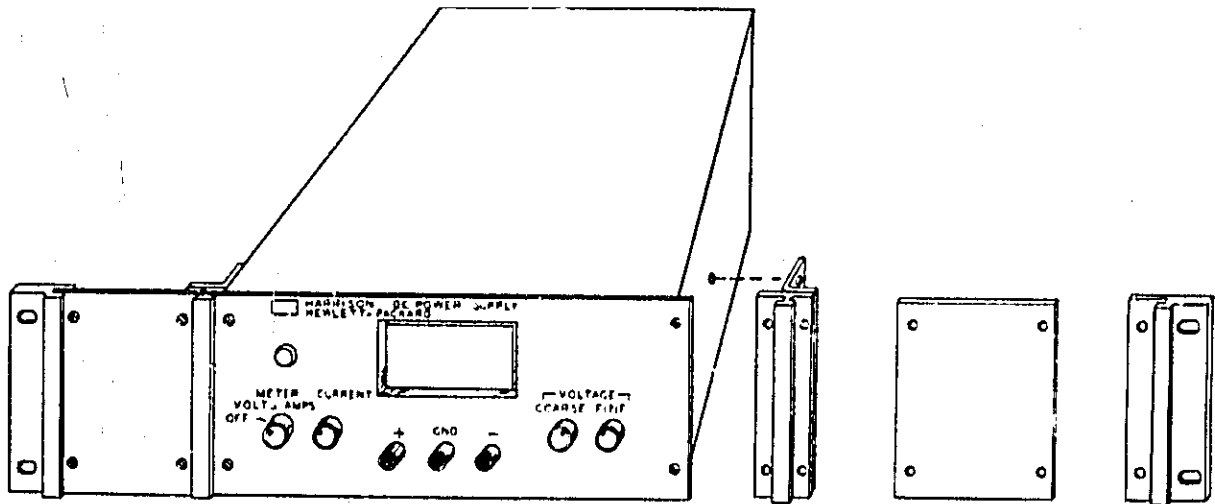

Figure 2-2. Rack Mounting, One Unit
- a. Bolt rack mounting ears, combining strips, and angle brackets to each side of center spacing panels. Angle brackets are placed behind combining straps as shown in Figure 2-2.